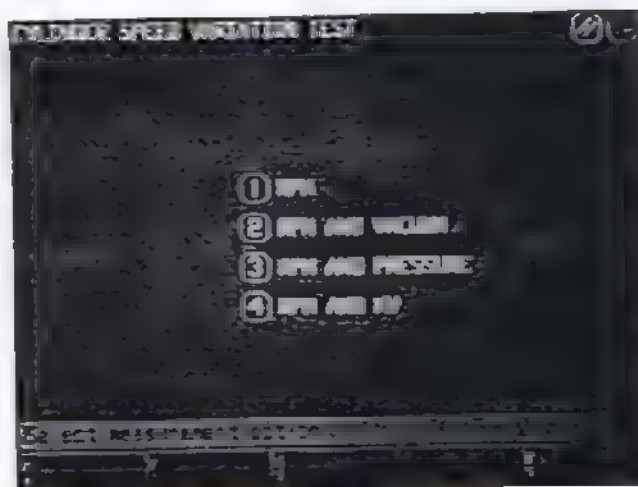

Figure 3-36
1. Select the *Cylinder Speed Variation Test* from the *Cylinder Power* menu. Follow the first screen prompt and press the number which matches the test configuration you wish to run (see Figure 3-36).